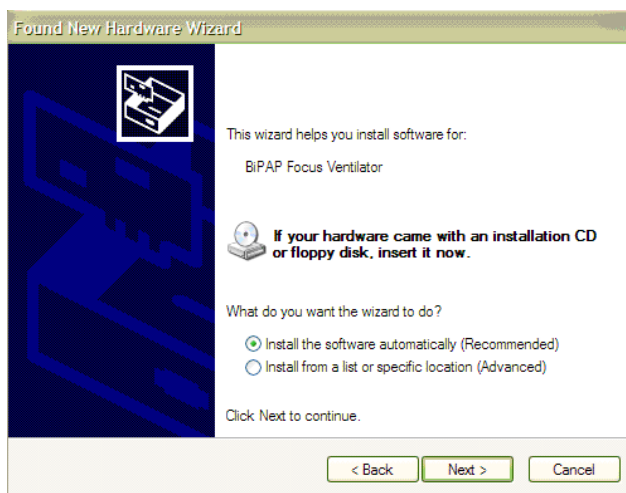

Figure 6-1: New Hardware Wizard
3. If the software drivers for the communications software are not already installed on the PC, the New Hardware Found Wizard appears when the ventilator is powered on. Select “Install software automatically” and click **Next**. Refer to Figure 6-1. If drivers are loaded proceed to step ‘1.’ on page 6-4.